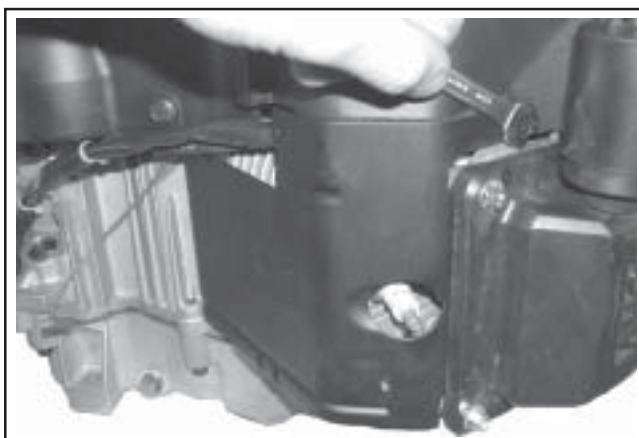

Figure 9-29. Removing Outer Baffles.
4. Remove the outer baffles. See Figure 9-29.